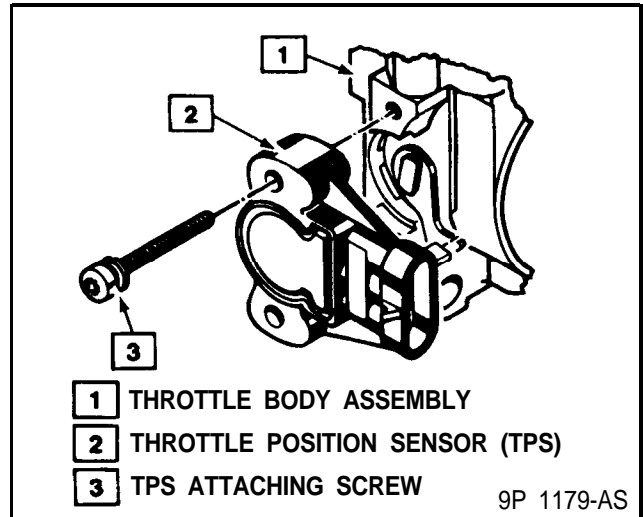

Figure 12 - Throttle Position Sensor
**Remove or Disconnect (Figure 12)**
3. TPS attaching screws (3).
4. Throttle Position Sensor (TPS) (2).
**Install or Connect (Figure 12)**
1. With throttle valve in the closed position, install the throttle position sensor (2) on the throttle body assembly (1), making sure TPS lever lines up with the TPS drive lever on the throttle shaft.